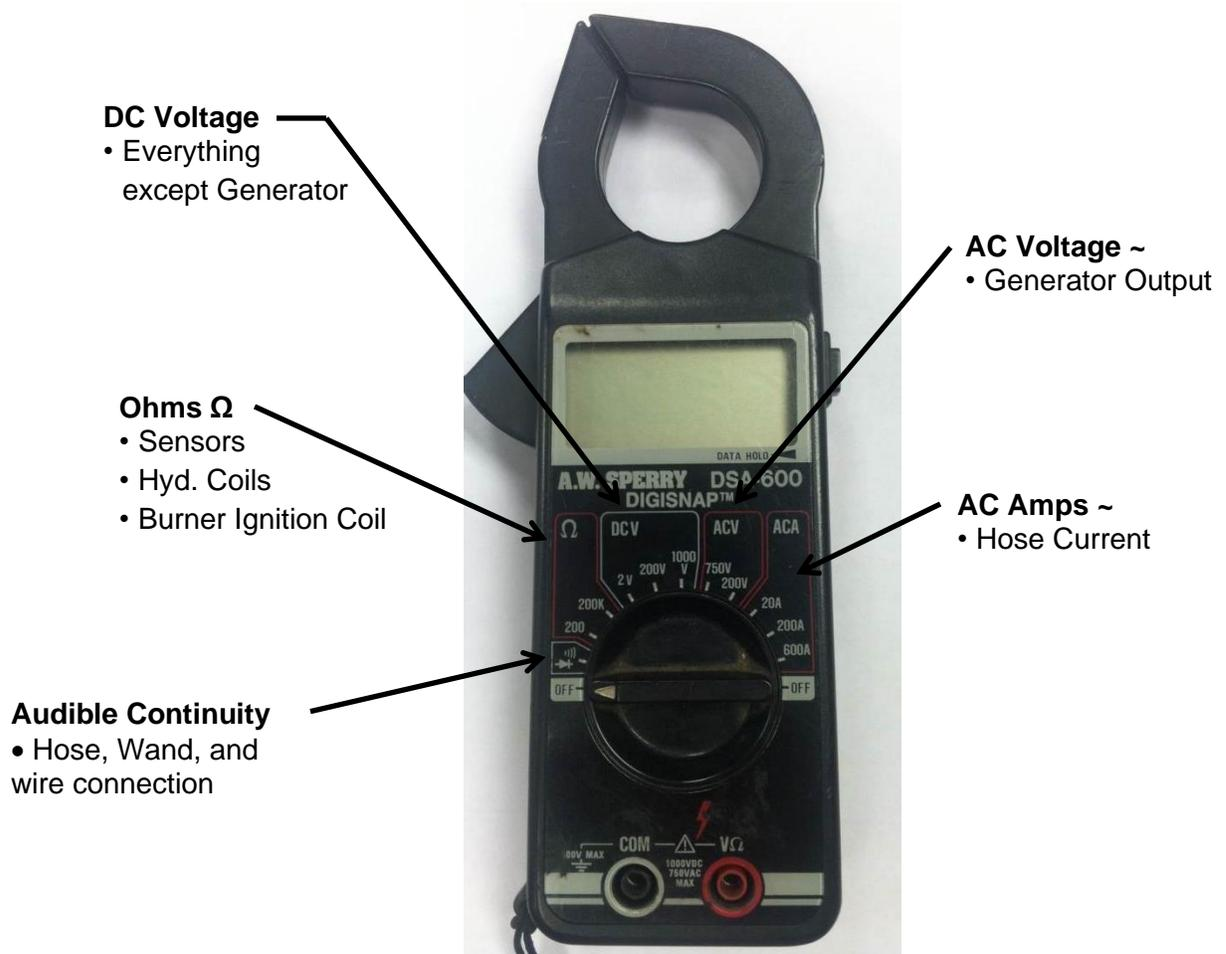

Fig. 7-2 Clamp – On Amp Meter/Multimeter
The electric hose and wand use 24-volt 3-phase alternating current (AC). The AC power is from the generator which hangs under the radiator. This system has no reference to ground so there is no possibility of electrical shock unless you are between 2 of the phases. **NOTE: ONLY CHECK AMPERAGE ON A HOSE WITH A CLAMP-ON AMP METER.** (See Fig. 7-2 Clamp – On Amp Meter/Multimeter)
The Multimeter can be used to check amperages under 10 amps in AC or DC current. When checking the amperage of the electric hose **always use a clamp-on amp meter**. (See Fig. 7-2 Clamp – On Amp Meter/Multimeter) The amperage in the hose can reach as high as 35 amps. Clamp the meter around one wire at a time. Remember, most clamp-on meters do not work on DC current.